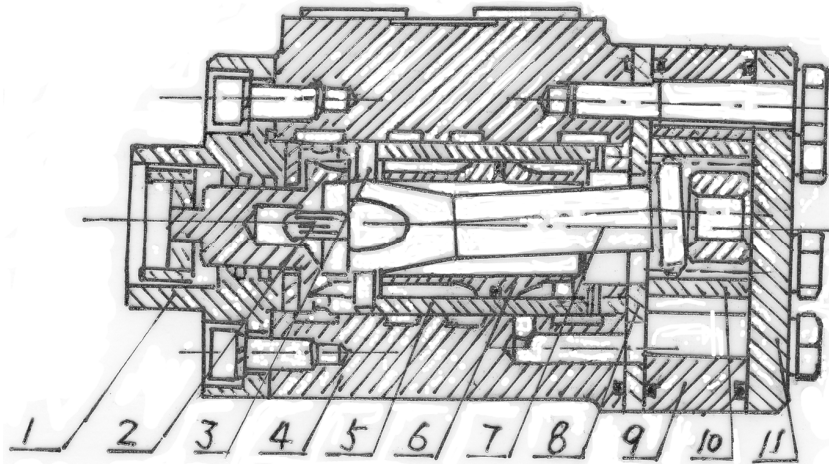

Fig. 9 Structure of the Full hydraulic steering gear
The working principle of the full hydraulic steering gears is shown in Fig.9. The Rear axle housing (9) is also being made use of as the oil tank of the steering gears. Low-pressure oil flows into Constant flow pump HLCB-D06/06 (L) (6) on the Diesel engine (7) through the Ø18 inlet pipe of the pump. The steady high pressure oil flows into the Full hydraulic steering gears of Model BZZ1-E80 (4) and actuates the Steering cylinder (2) for steering action, but the overflow oil comes back to the gear pump through the oil return pipe. The Constant flow pump is adopted for keeping a stable oil delivery, so as to ensure the steady working of the hydraulic steering gear.
- a. The structure of the full hydraulic steering gear is shown in Fig. 9. The Rotary servo valve, consisting of the Valve element (6), Valve bush (5) and Valve body (4), controls the flow direction of hydraulic oil. The Stator (9) and Rotor (10) makes up the pair of cycloidal toothing functioning as the flow control valve, which makes the hydraulic oil flow enter into the steering cylinder be in the direct ratio of the turning angle of steering wheel. The Linkage shaft (7) transmits torque.